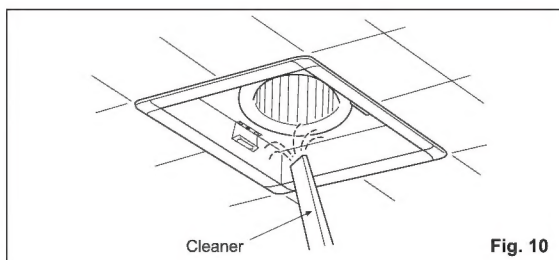

Fig. 10
3. Remove dust and dirt from fan body using a vacuum cleaner. (Fig. 10)